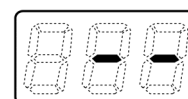

Fig. 2
STEP 2: Check that the display on all Four controllers is lit and displaying a temperature when switched on. If any ONE of the controllers displays two dashes (see Fig. 2) in the display repeat STEP 1.